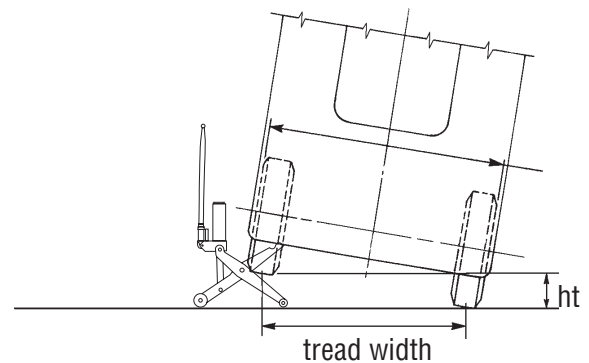

Figure 4
**⚠ CAUTION:** When lifting narrow forklift trucks (less than 40 in. wide) from the sides, the height between the floor and the bottom of the raised tire cannot be more than one fourth (1/4) the tire tread width. (Tread width is measured from centerline to centerline of the tire treads.) If this height is exceeded, the forklift truck could tip over or the jack could drop the load. See Figure 4.